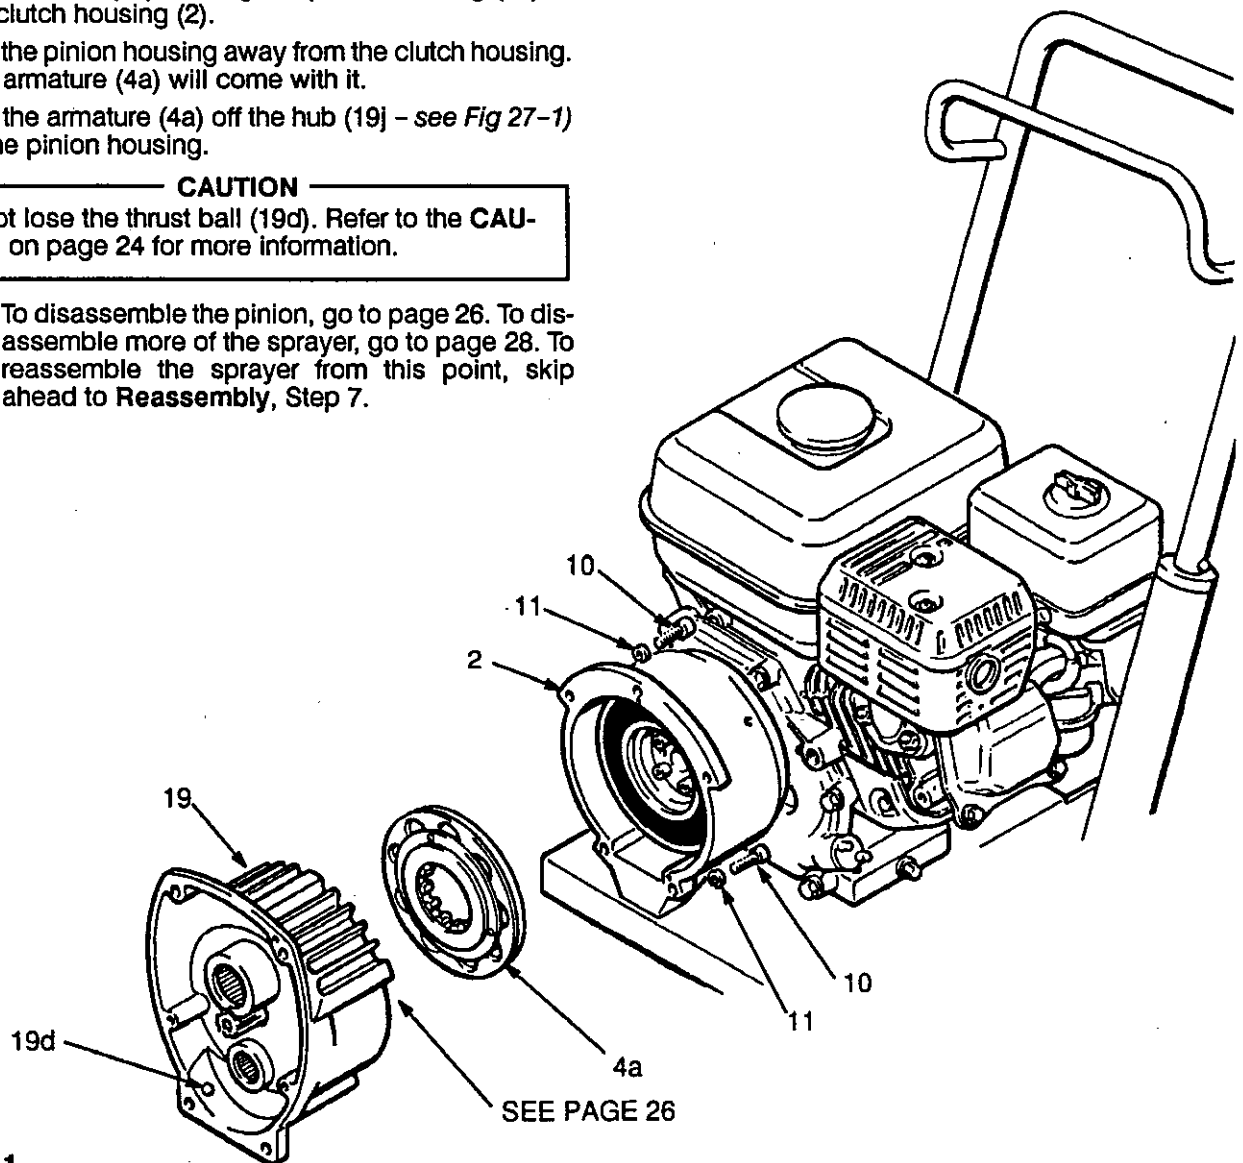

Fig 25-1
**NOTE:** Refer to Fig 25-1 for Steps 1 to 3.
1. Remove the two bottom screws (29) and lockwashers (11) first, and then remove the three screws (12) and lockwashers (11) holding the pinion housing (19) to the clutch housing (2).